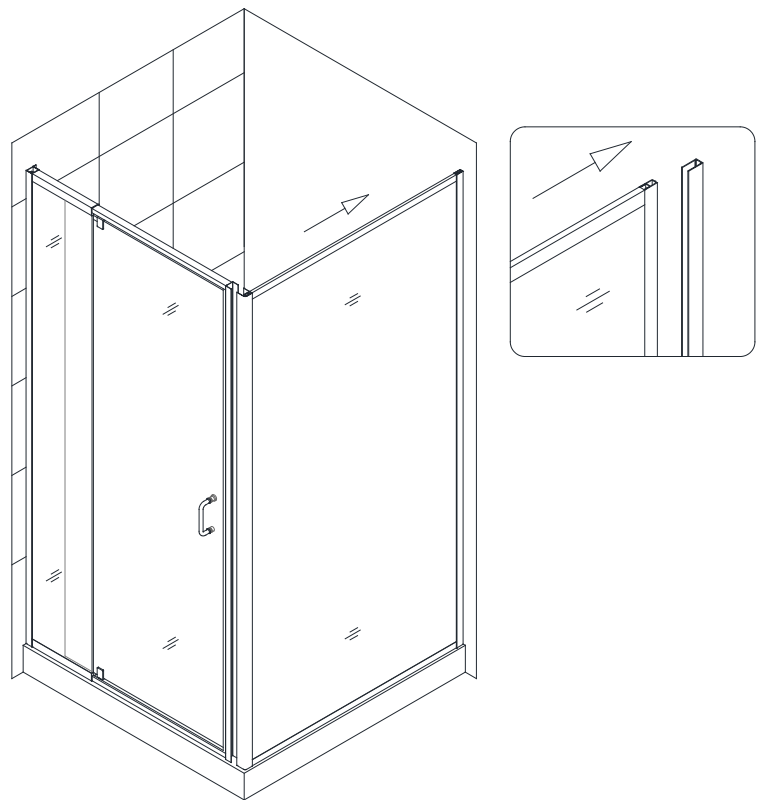

Fig 6
6. Slide the **Return Panel Assembly (#09)** into the **Return Panel Wall Profile (#11)**. (**Fig 6**)